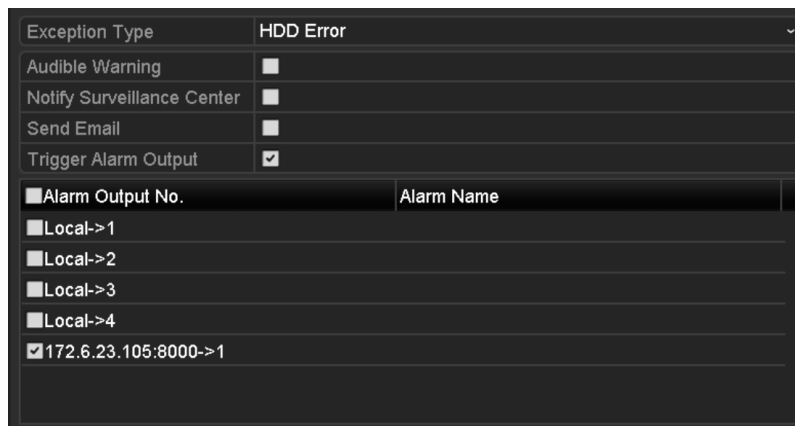

Figure 12-29 Configure HDD Error Alarm
Step 3 Click the checkbox(s) below to select the HDD error alarm type (s), as shown in Figure 12-29.